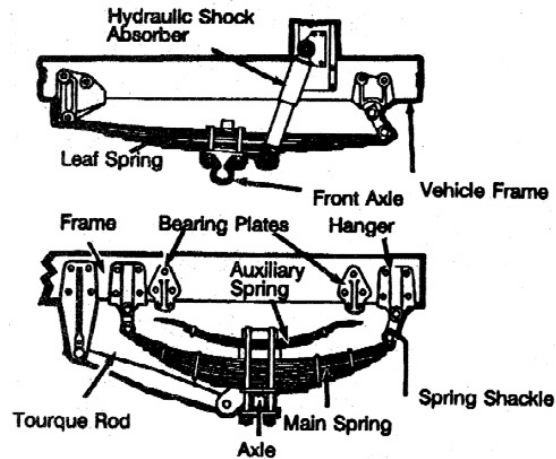

Figure 2-3
- Missing or broken leaves in any leaf spring. If one fourth or more are missing, it will put the vehicle “out of service” but any defect could be dangerous (Figure 2-3).